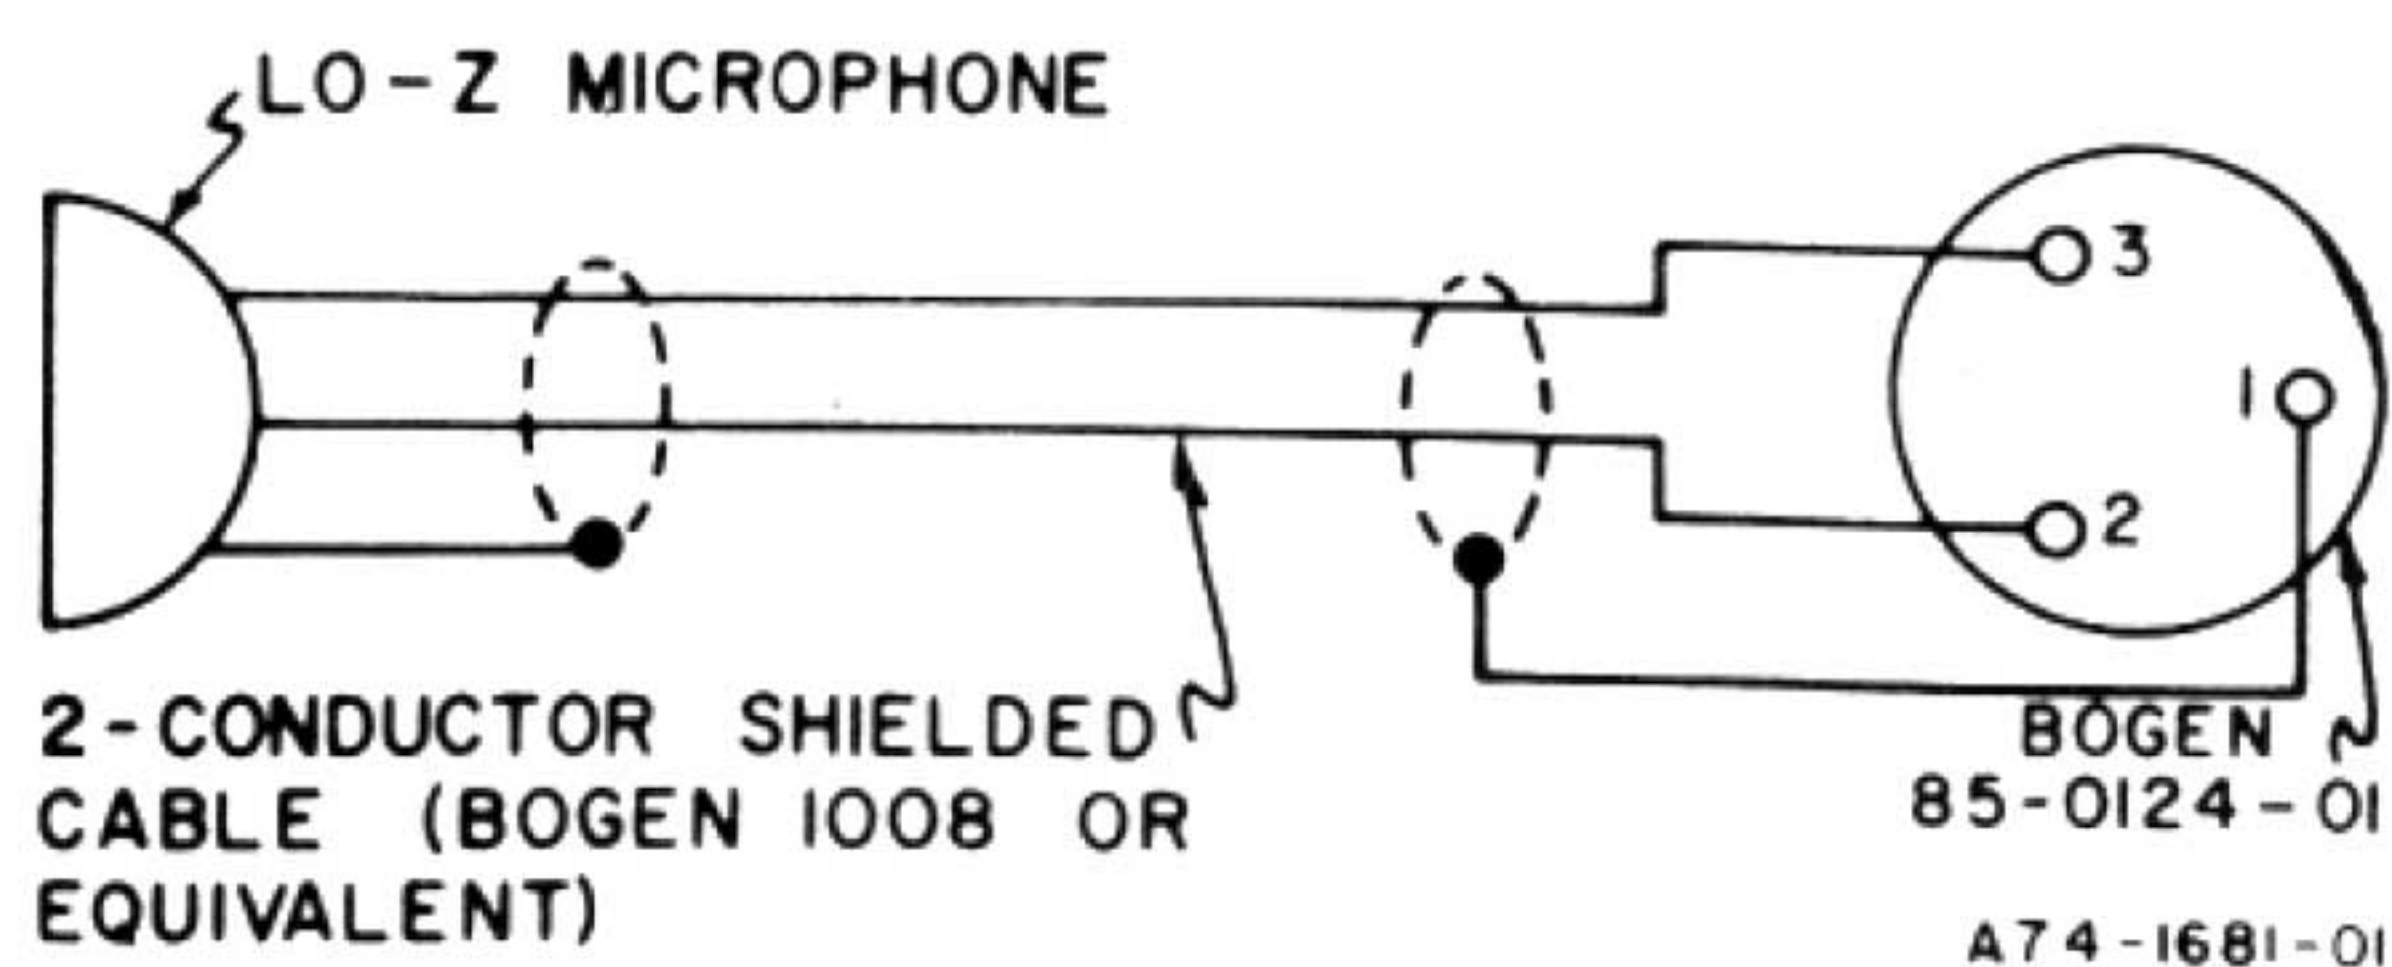

Figure 6b — Connecting Lo-Z Microphone
- 4) Connect microphone as shown in figure 6b.